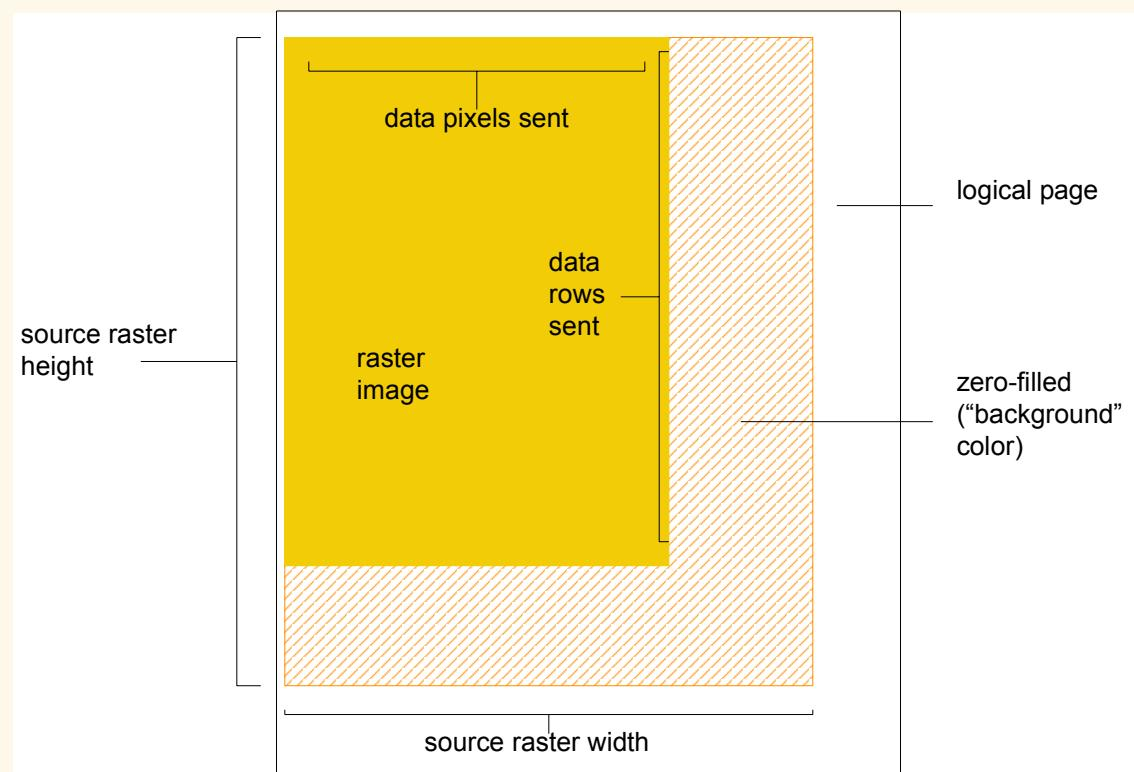

Figure 157. Setting the Width and Height in HP RTL
*Figure 157* shows an example of zero-filling using source height and width.